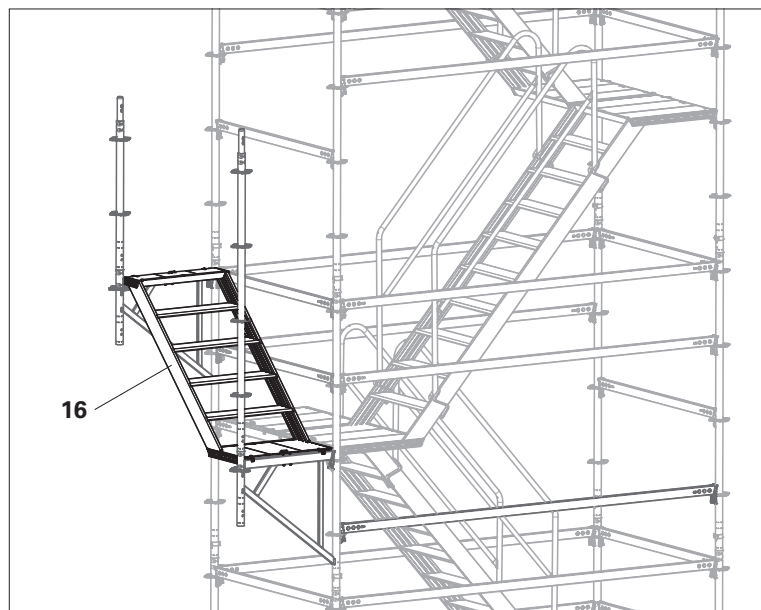

Fig. B6.04
4. Attach the flex stair (**16**). (Fig. B6.04)